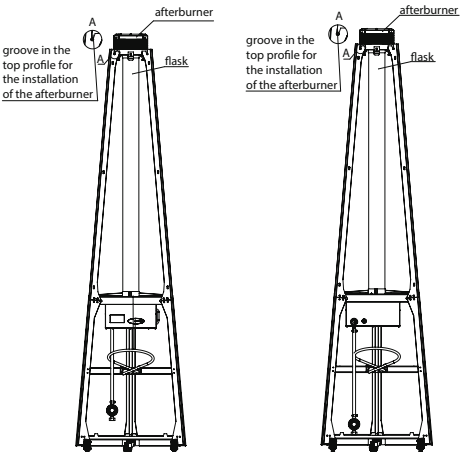

Fig.12 - Installing the flask and the afterburner
- Remove the flask from the box and carefully insert the flask, and install the afterburner onto the profiles (fig.12) from the top, fixing the flask, tighten the screws;